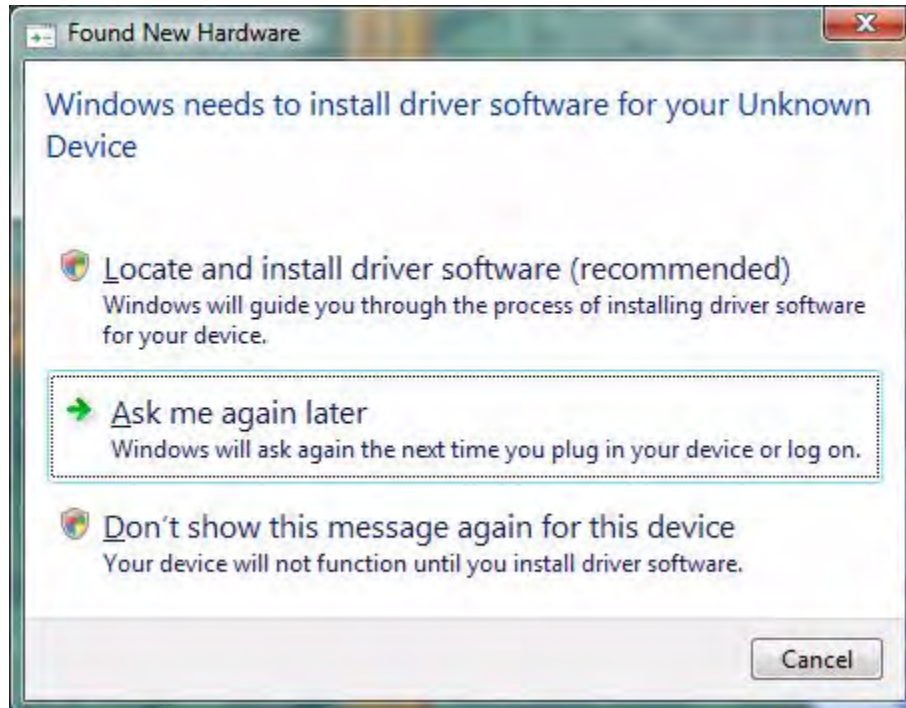

Figure 19. Found New Hardware Dialog, Windows Vista
2. After the PC detects the new hardware, it will display the Found New Hardware Wizard dialog box, shown in Figure 19. Click **Locate and install driver software (recommended)**.